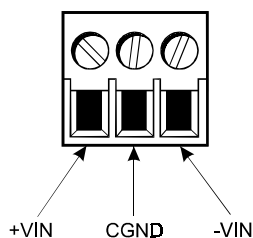

Figure 2. Power Connector
4. Insert three wire ends of the power cable into the three holes of the block plug, as shown in Figure 2. The Ground (PE) +VIN and -VIN wires should be inserted into the corresponding holes (again, refer to Figure 2). Be sure that no bare wires are exposed.